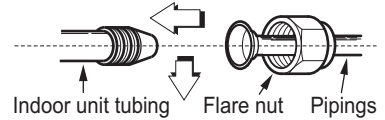

Fig.58
- Sufficiently tighten the flare nut with fingers, and then tighten it with a spanner and torque wrench as shown in Fig.58 & 59